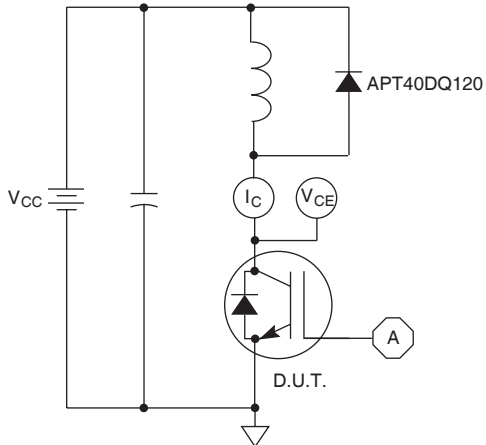

Figure 21, Inductive Switching Test Circuit
⑤  $E_{on2}$  is the clamped inductive turn-on energy that includes a commutating diode reverse recovery current in the IGBT turn-on switching loss. (See Figures 21, 22.)
⑥  $E_{off}$  is the clamped inductive turn-off energy measured in accordance with JEDEC standard JESD24-1. (See Figures 21, 23.)
⑦  $R_G$  is external gate resistance, not including  $R_{Gint}$  nor gate driver impedance. (MIC4452)